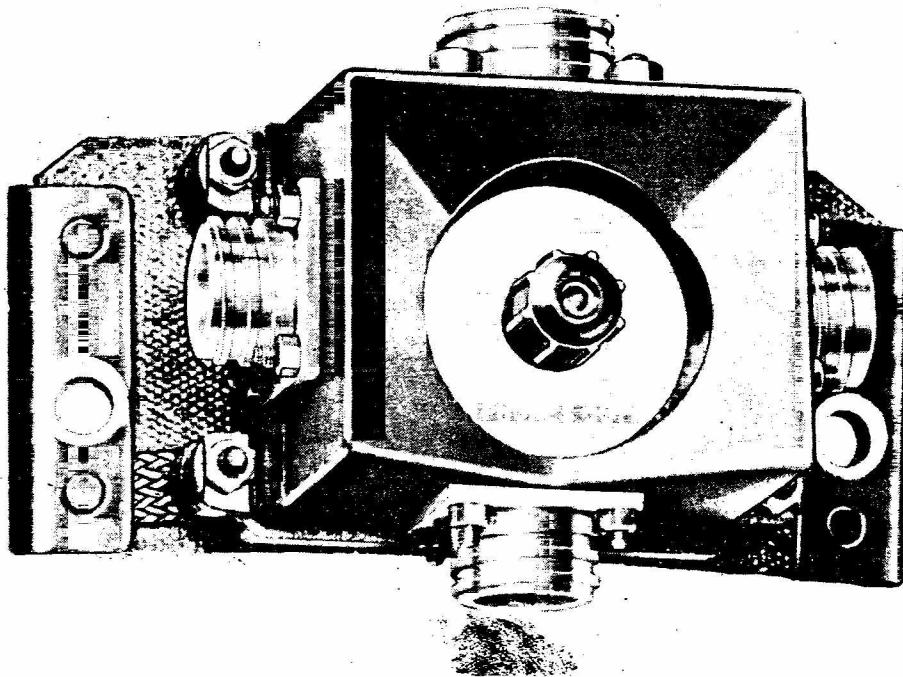

FIG. 5 ADAPTOR UNIT A RECEPTION SET
(3) Adaptor Unit 'A' Reception Set (Fig. 5)